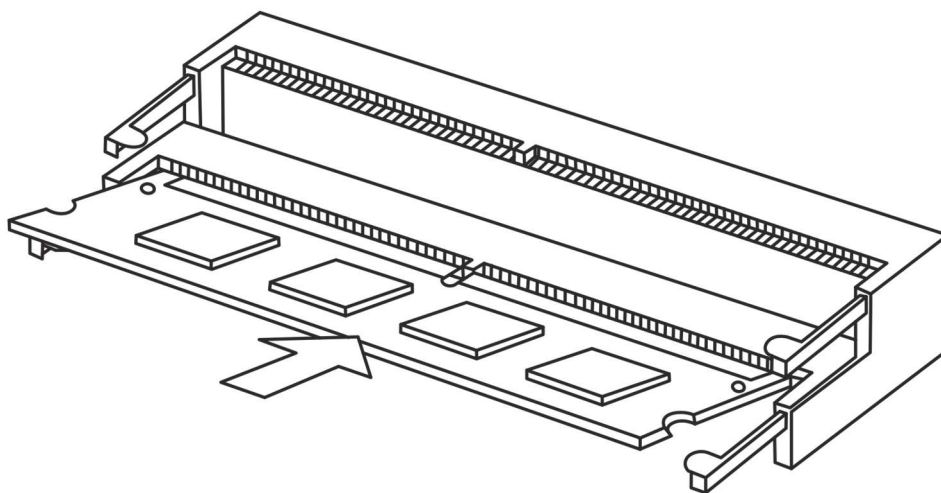
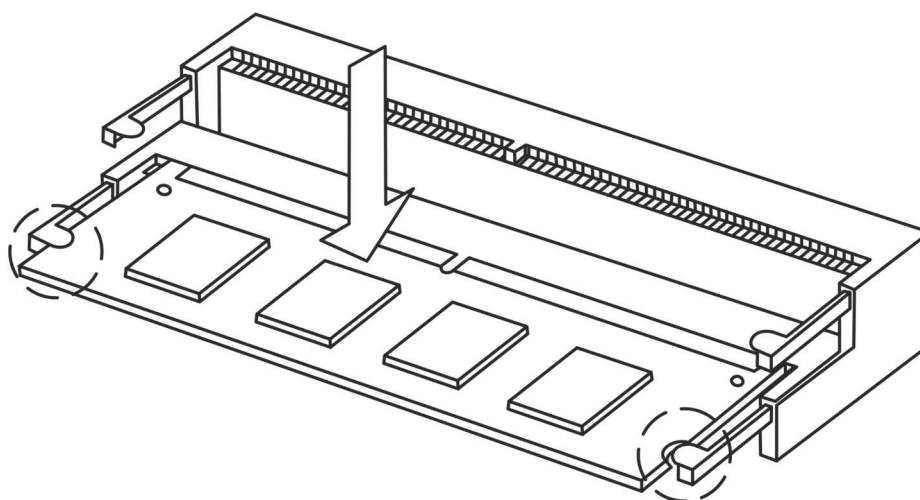

Figure 7 – Installing the RAM module
Figure 8 – Securing the RAM module
Step 3. Insert the RAM module contacts into one of the two SO-DIMM slots at a 30° angle until it stops, as shown in figure 7. Gently lower the module to a horizontal position until the latches click, as shown in figure 8.